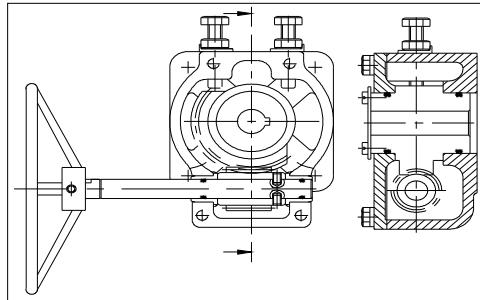

Fig 4.1: Details of gear operator.
6.2 For gear operated valves, **THE GEAR OPERATOR OPEN / CLOSE ADJUSTMENT HAS BEEN DONE PRIOR TO SHIPMENT AND MUST NOT BE CHANGED**. Rotation of hand wheel in the clockwise direction closes the valve and counter clockwise rotation opens it. (Looking from hand wheel end) The details of gear operator are shown in the fig. 4.1. The internal details/construction of gear operator may vary as per manufacturer's standard.